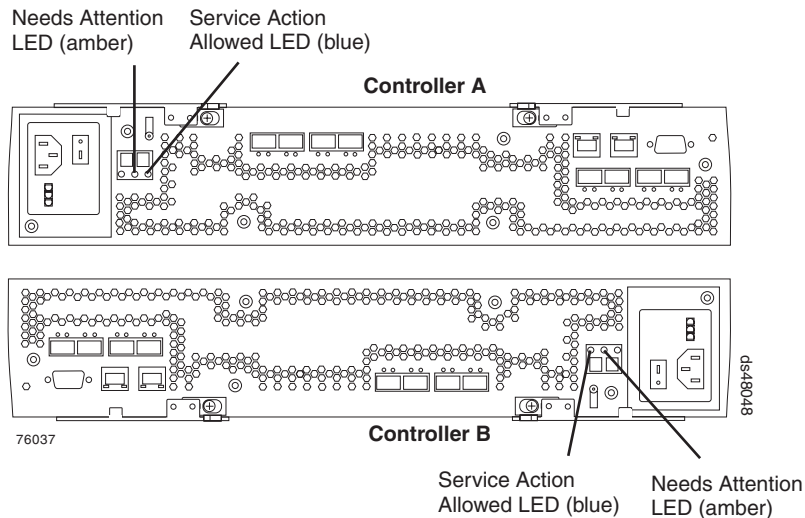

Figure 87. RAID controller Needs Attention and Service Action Allowed LEDs
2. Locate the failed controller by checking the Needs Attention status LEDs on the controllers in the storage subsystem. (Figure 87 on page 148 shows the location of the Needs Attention LED on the back of a controller.)
3. Is the Service Action Allowed status LED turned on? (Figure 87 shows the location of the Service Action Allowed status LED on the back of a controller.)